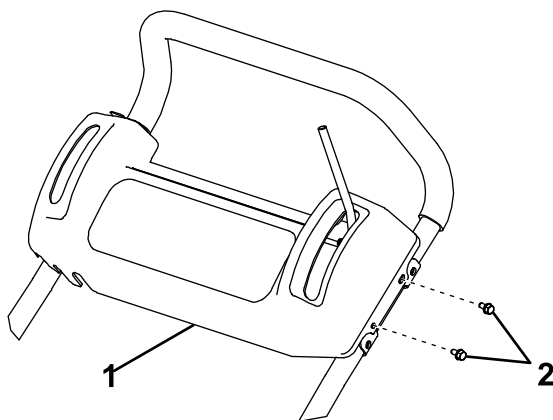

Figure 1
1. Remove the 2 bolts securing each end of the console panel to the handle bar (Figure 1).
3. Secure each end of the console panel to the handle bar with the 2 bolts previously removed (Figure 1).